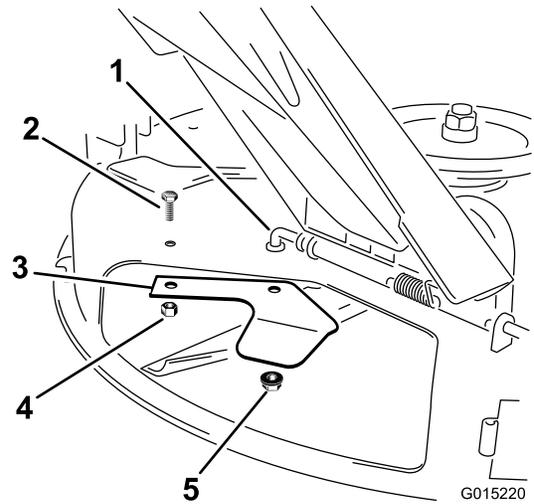

Figure 7
- Remove the lock nuts and bolt securing the cutoff baffle to the underside of the deck (Figure 7). Retain all fasteners.